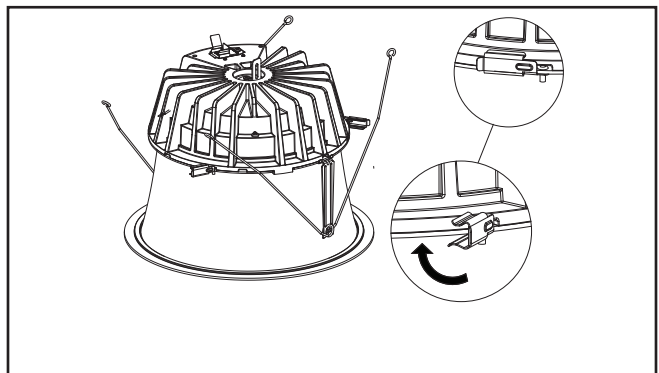

Figure 36
- Rotate side clips (3) into place to securely attach trim assembly to LED engine (Figure 36).